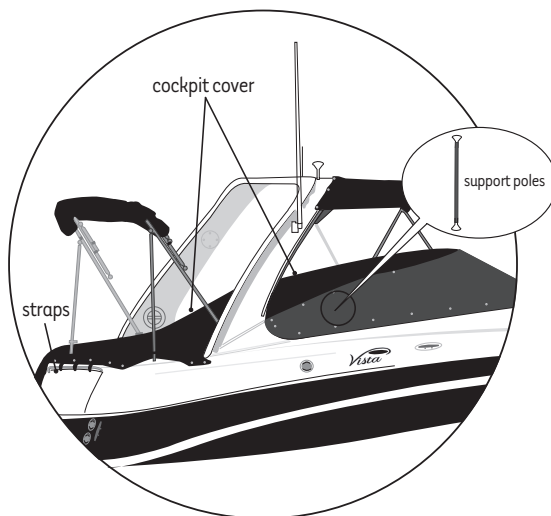

Figure O-10: Cockpit Cover Installation
- 6) Attach straps to aft rail and pull to adjust. See Figure O-10.